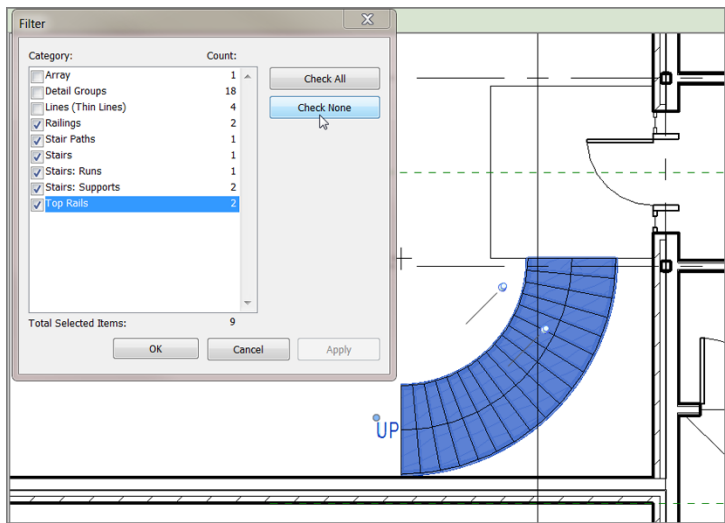

FIGURE 10.49: Selecting the items to be mirrored
2. Select the stairs and the railings, as shown in Figure 10.49.